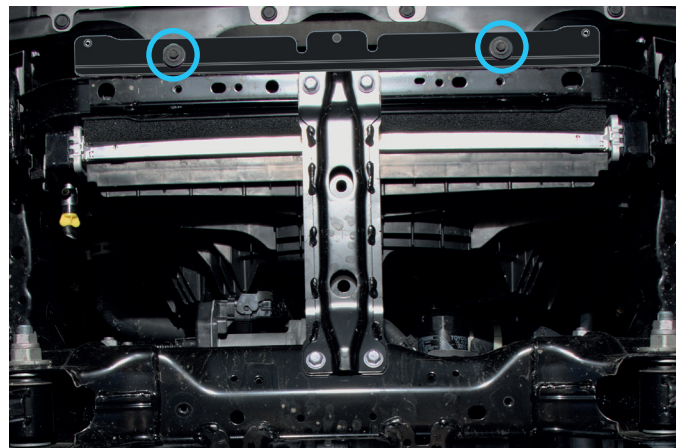

Fig. 4
4. Install mounting bracket (item 2) as close as possible to the factory bumper and fix it using factory bolts from step 3 as shown in fig.4.